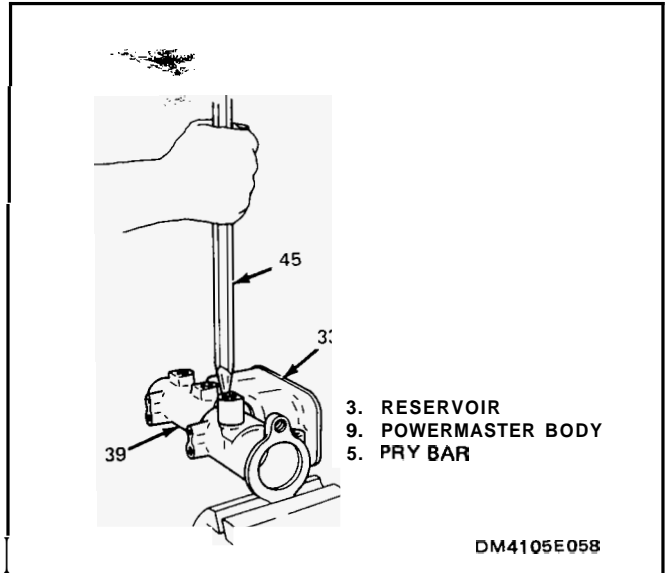

Figure 8 Removing Reservoir
1. Retainer (16) and boot, pushrod, socket group (17) and piston guide (19) from power piston assembly (25).
2. O-ring (20) from piston guide (19) and O-rings (21) from power piston assembly (25) and piston guide (19).
3. Reaction body group (22) from power piston assembly.
4. Reaction piston (23) and reaction disc (24) from reaction body group (22).
- Do not attempt further disassembly of reaction body group (22) or power piston assembly (25). If damage is noted or fault isolated to reaction body group or power piston assembly, they shall be replaced as assemblies.
5. Primary piston assembly (26) and secondary piston assembly (27 thru 30) by directing a small amount of compressed air into outlet port at blind end of body, other outlet port plugged.
6. Secondary seal (27), spring retainer (28) and primary seal (29) from secondary piston (30).
7. Spring (31) from body bore.
- Powermaster body in vise as shown in Figure 8.
8. Reservoir (33) using pry bar (45) as shown in Figure 8.
10. Valve seat and seal (36) and discard.
11. Poppet (37) and spring (38) and discard.
- All parts except pressure switch (1) and E-H pump (8) in clean, denatured alcohol.
- Do not immerse pressure switch (1) or E-H pump (8) in alcohol. Exterior surfaces may be wiped with a clean cloth lightly moistened with denatured alcohol if necessary.
- Powermaster body (39) in vise as shown in Figure 8.
1. New spring (38) and poppet (37) in Powermaster body (39).
2. New valve seat and seal (36) in Powermaster body (39).
3. Bottom out valve seat and seal (36) by threading nut of tube and nut assembly (12) into Powermaster body port.
- Powermaster body (39) from vise.
4. Grommets (34 and 35) into Powermaster body (39).